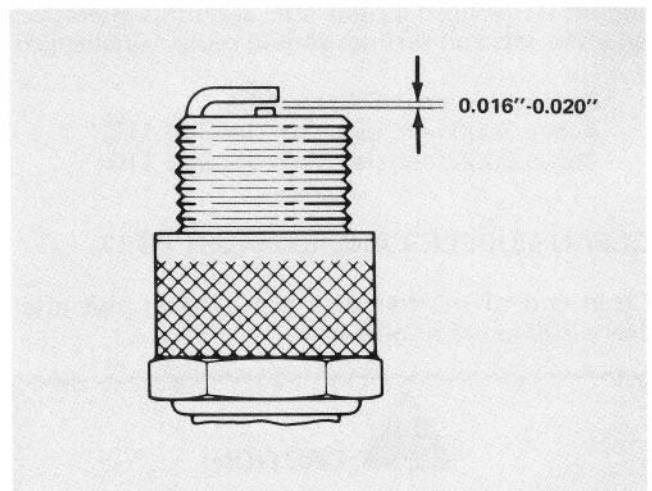

Figure 17
5. Set air gap between center and side electrodes at 0.016-0.020 of an inch (Fig. 17). Install correctly gapped spark plug w/gasket seal, and tighten plug to 22-30 ft-lb. If torque wrench is not used, tighten plug firmly.